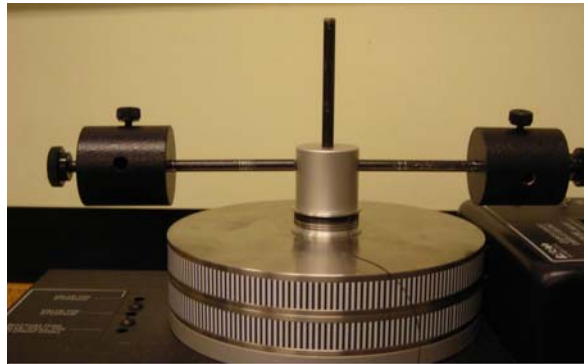

Figure 4
1. Measure and record the masses of the hanging mass (M) and the two cylinders (m_1 and m_2).
2. Place the cylinders on the horizontal rod such that the axes of the cylinders are along the horizontal rod (as shown in Figure 4 below). Make sure the thumbscrew on each cylinder is tightened. The center of mass of each cylinder must be the same distance (r) from the axis of rotation (i.e. $r_1 = r_2$ in Figure 3a). Estimate the uncertainty in r called δr . This should include both the uncertainty in reading your ruler and the uncertainty in locating the cylinder's center of mass.